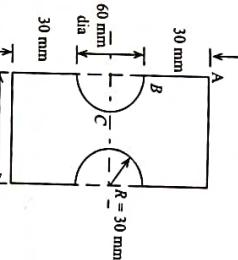

Figure 10.13
- 10.3 A rolled steel section is shown in Fig. 10.13, it is subjected to a vertical force of 20 kN. Determine shear stress at points A, B and C of the section.